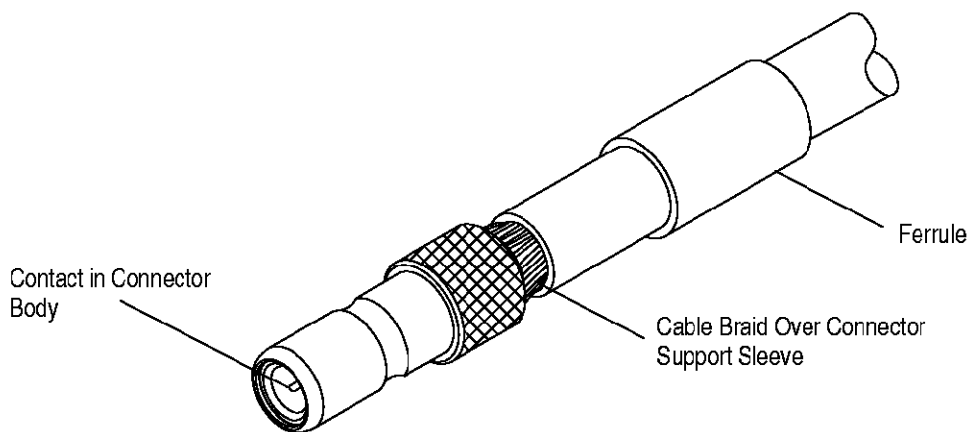

Figure 6
2. The cable braid must be positioned over the support sleeve of the connector body. See Figure 6.